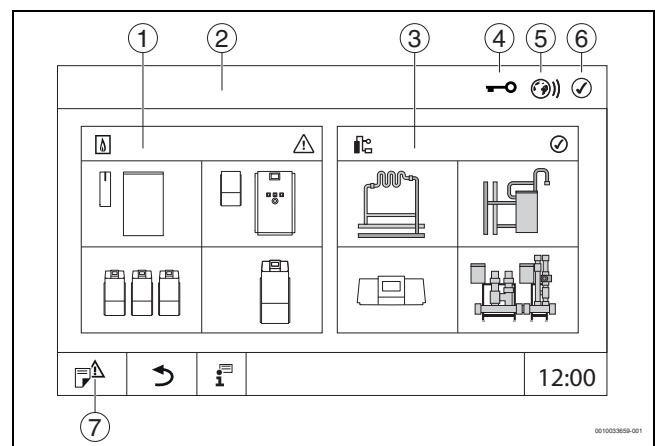

Fig. 9 System overview (example)
- Tap on **System** (→ Figure 9, [3], page 10).